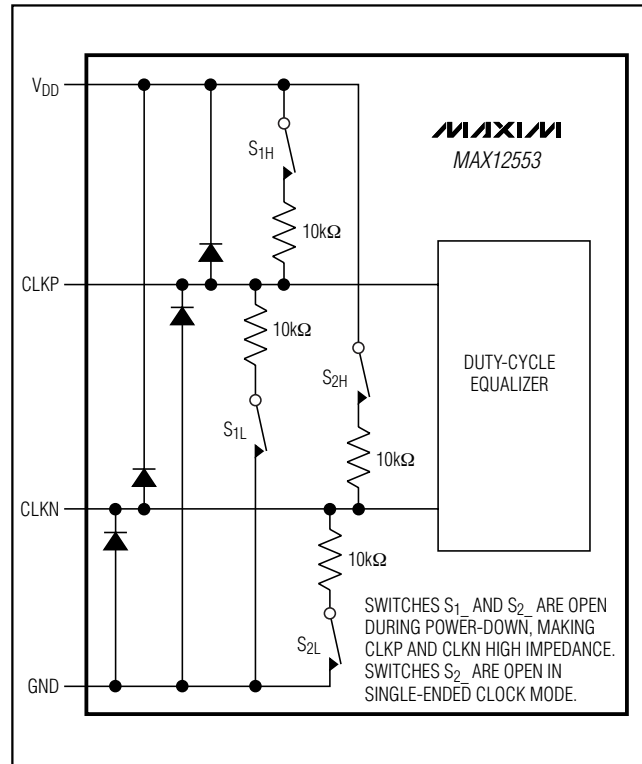

Figure 5. Simplified Clock-Input Circuit
CLKP and CLKN are high impedance when the MAX12553 is powered down (Figure 5).
- CLKP, CLKN go high impedance (Figure 5).